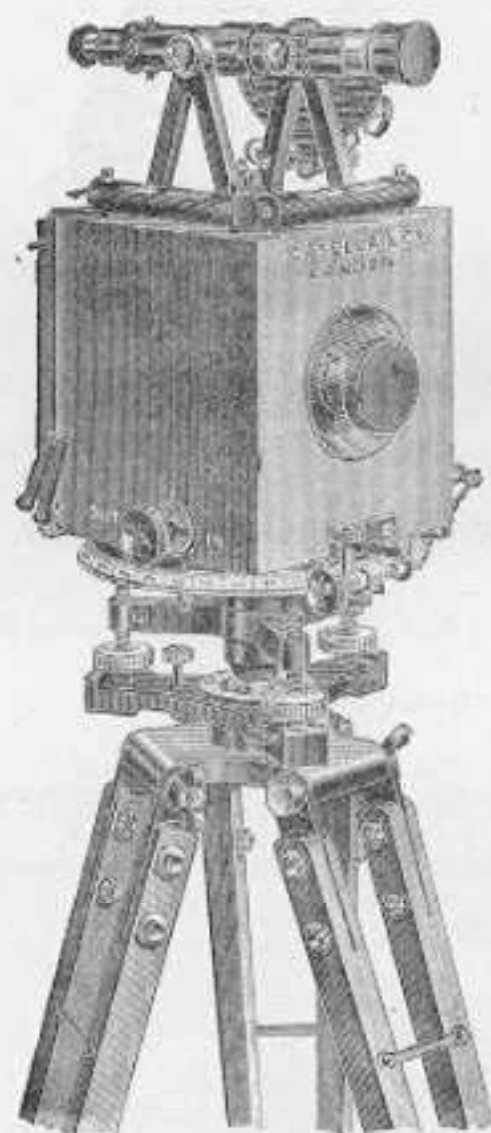

FIG. 15.
**Photo Theodolite** (Fig. 15). This instrument is designed to give true photographic perspectives in a vertical plane, and at constant distance, and is furnished with special mechanism for recording on the negative the information necessary for interpreting the photographs and plotting the ground plans. In rough and mountainous districts photographic surveys are much superior to all others. This method is quicker and cheaper than any other, and has been used with notable success by surveyors and explorers in all parts of the world, especially in Canada and South America, where many thousands of miles have been surveyed in this manner.